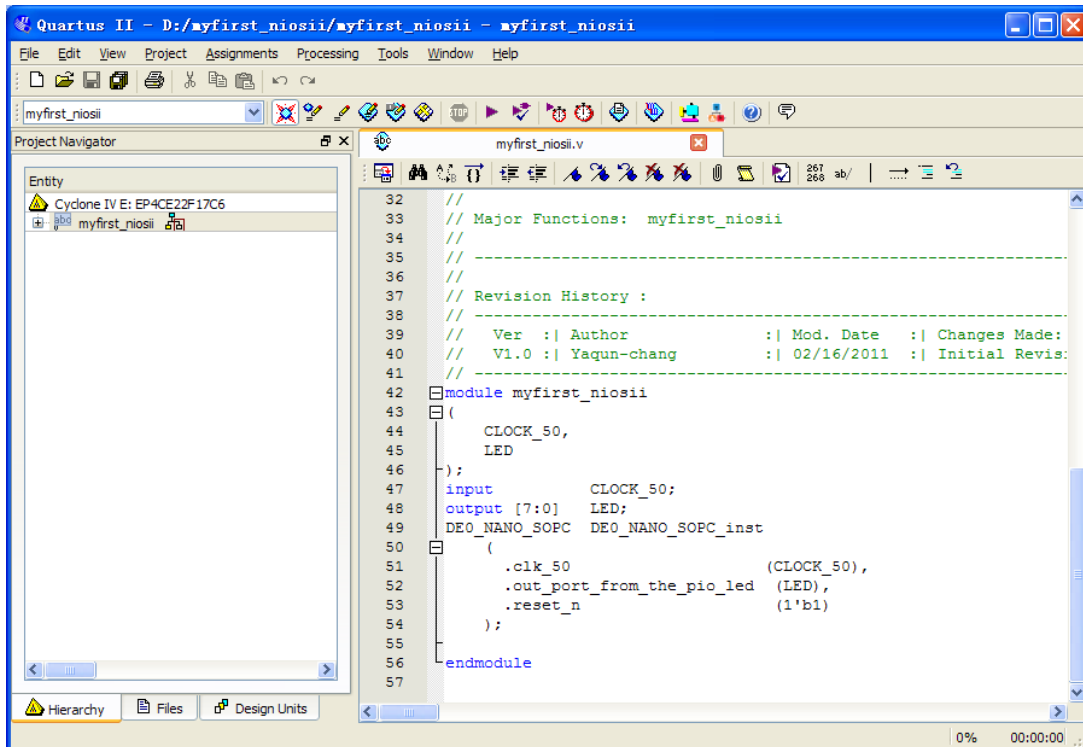

Figure 7-43 Input verilog Text
34. Type verilog the following script as shown in **Figure 7-43**. The module **DE0_NANO_SOPC** of the code is from **DE0_NANO_SOPC.v** of the project. See